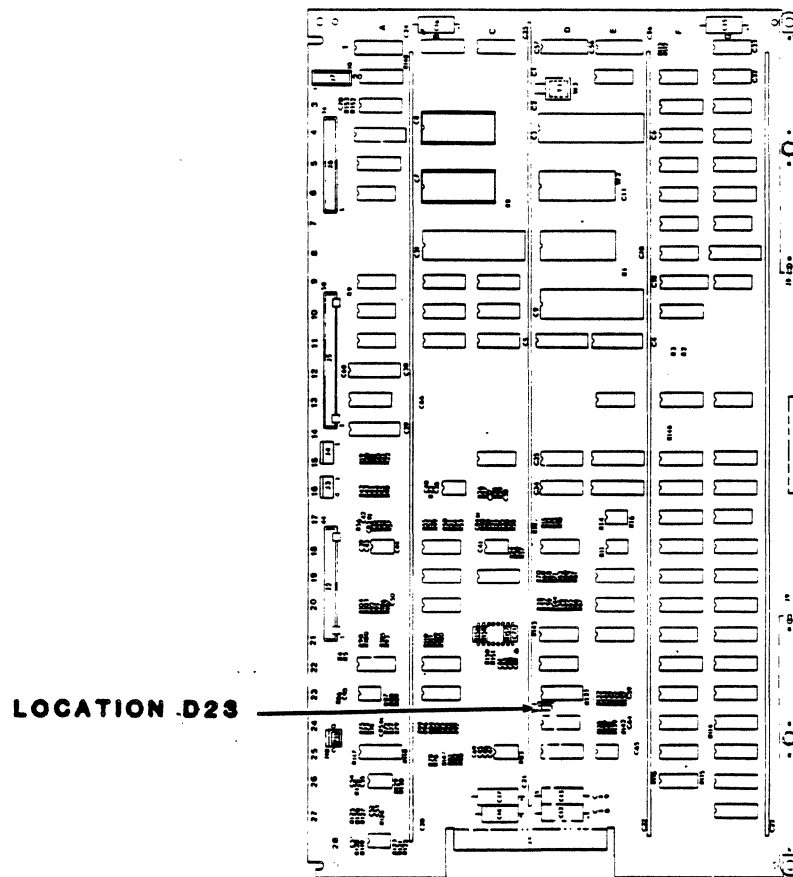

Figure 6-24. Servo-Control PWA
2. Move jumper plug at location D23 on servo-control PWA to the 1-2 position (see figure 6-24).